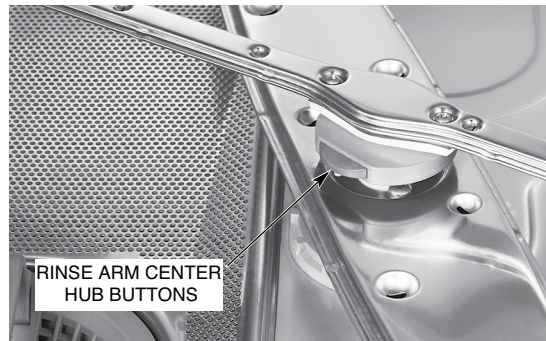

Fig. 7
Ensure both upper and lower wash and rinse arms are properly installed. The rinse arms have quick release buttons located on the center hub (Fig. 7). When installed properly, all arms should turn freely and continue turning for a few seconds after being rotated by hand.
4. Remove the upper and lower wash and rinse arms by pressing in on the buttons located on the sides of the center hub and pull off (page 20, Fig. 7). Thoroughly wash and rinse the arms in a sink and ensure all debris is removed from the wash and rinse arm nozzles.
To remove the lower wash arm, press in on the buttons located on the sides of the center hub and lift the rinse arm off (page 20, Fig. 7). The wash arm can be lifted off once the rinse arm is removed. The upper wash and rinse arms are removed by pressing in on the buttons located on the sides of the center hub and lowering both arms together. Be careful not to drop the arms.